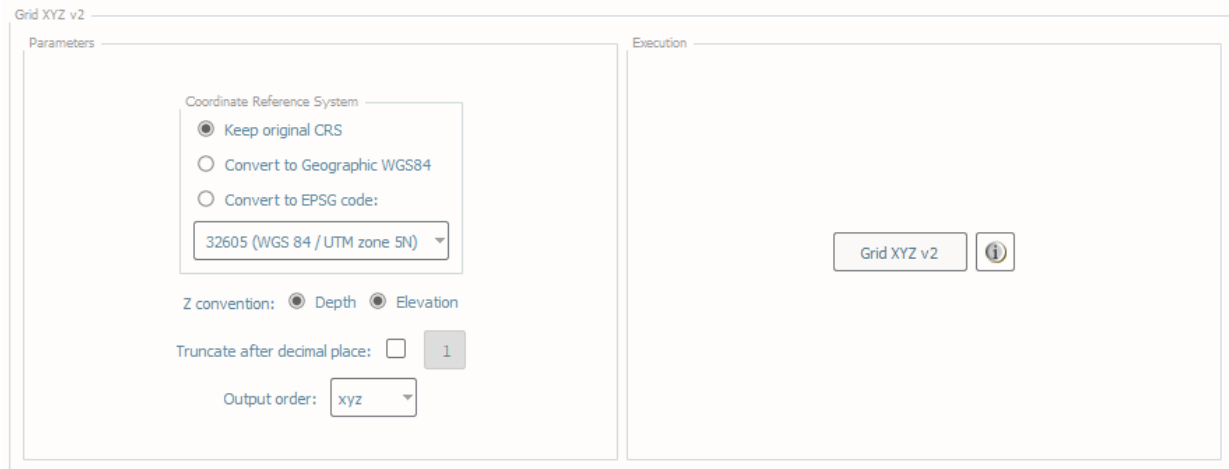

Fig. 2.62: Grid XYZ's interface.
- In **Execution** (Fig. 2.62), click **Grid XYZ v2**.